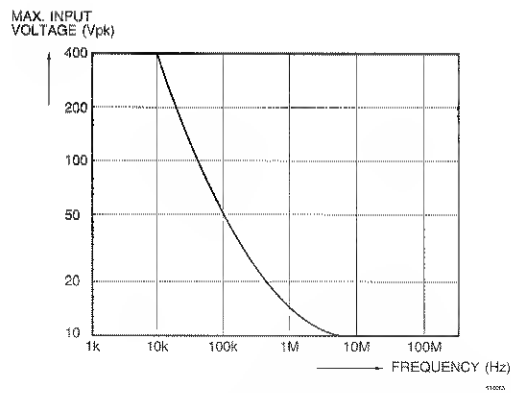

Figure 1.1 Max. input voltage versus frequency
*Note 2: Up to 10 KHz; >10 kHz see figure 1.1*